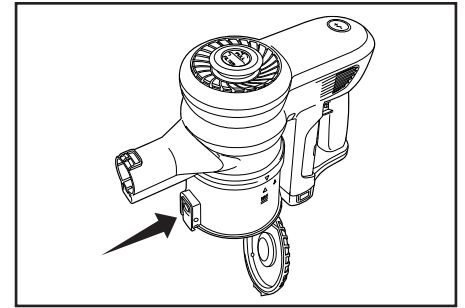

Fig. 1
3. Push the dust cup release button to release the bottom of the dust cup (Fig. 1). The base will drop down and the debris will fall into the waste bin.